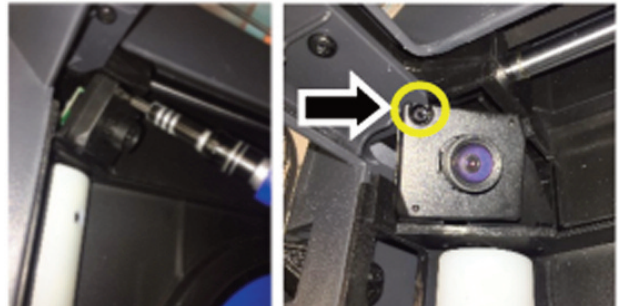

Figure 2a. and 2b. Remove the screw encircled
b. Replace the screw using the T10 Torx screwdriver, securing the camera to the printer. Refer to Figure 2a. and 2b.